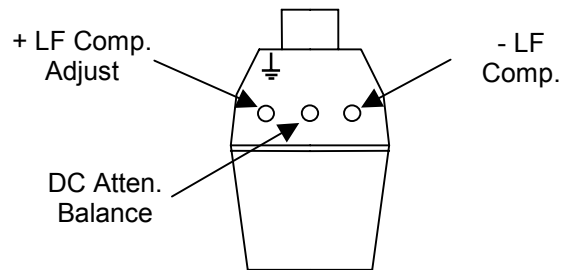

Figure 8. ±10 Attenuator Adjustment Locations
11. Using the square adjustment tool, adjust the **+LF Comp** (See Figure 8) to achieve the best square corner and flat top of the displayed waveform. Note that the added capacitance of the adjustment tool may change the compensation of the waveform when it is inserted into the adjustment. The correct adjustment is achieved when the best corner is displayed with the adjustment tool removed.
15. The displayed waveform is the common mode feedthrough. Using the adjustment screwdriver with the flat blade, adjust the DC Atten. Balance (See Figure 8) to minimize the amplitude of the flat portions of the displayed waveform. This adjustment only affects the flat portions of the square wave. Do not be concerned with any overshoot at the transitions.
18. Using the 0.025 in. square adjustment tool, adjust the **–LF Comp** (See Figure 8) to minimize the amplitude of overshoot